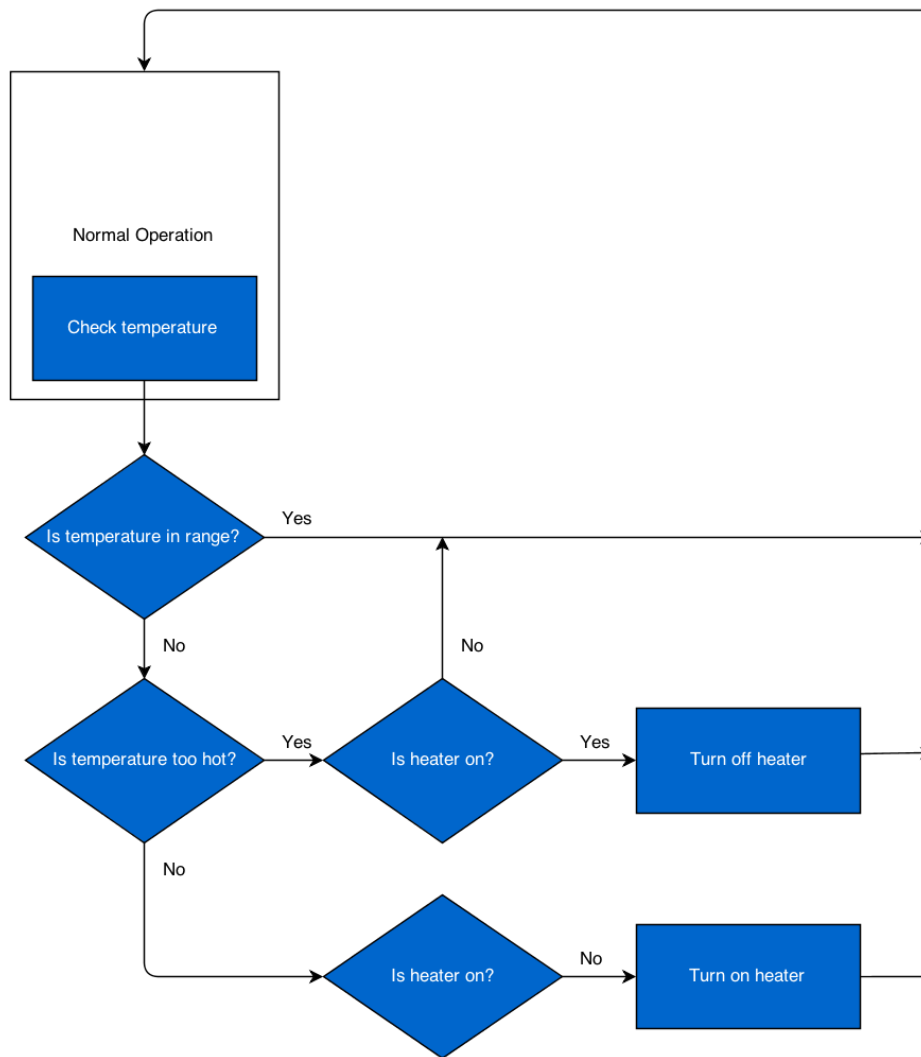

Figure 2: Temperature polling flow chart
- Method 1: The system interrupts its current activity and asks the sensor periodically: “Has the temperature risen above or fallen below the set range?” If the sensor answers yes, then the system either turns the heater on or off. This process is shown in Figure 2.